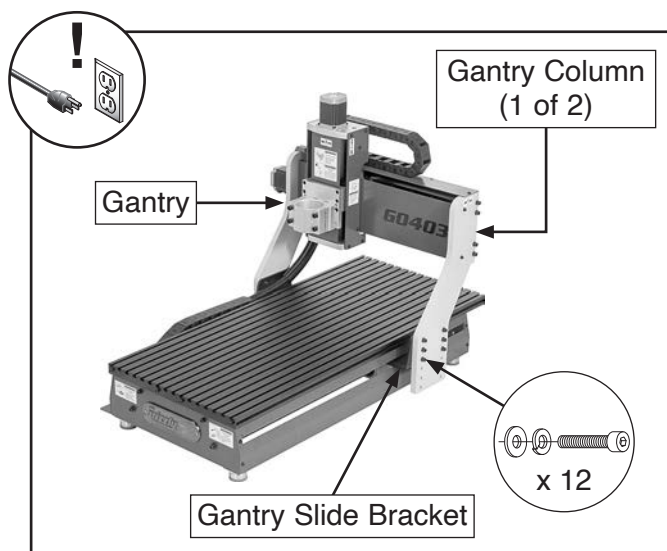

Figure 38. Location of gantry fasteners.
3. Have an additional person support gantry, then remove (12) cap screws, lock washers, and flat washers securing gantry columns to gantry slide bracket (see **Figure 38**).